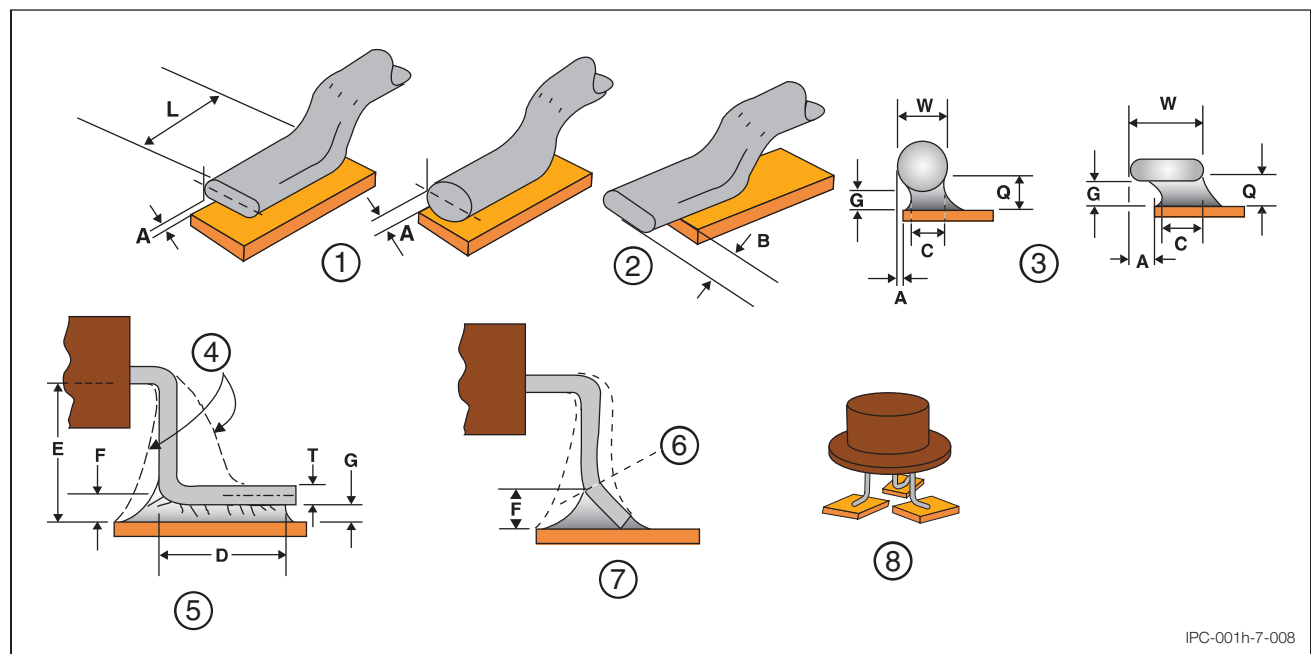

Figure 7-8 Round or Flattened (Coined) Gull Wing Leads
7.5.8 Round or Flattened (Coined) Gull Wing Leads Connections formed to round or flattened (coined) leads **shall** [D1D2D3] meet the dimensional and fillet requirements of Table 7-8, see Figure 7-8.